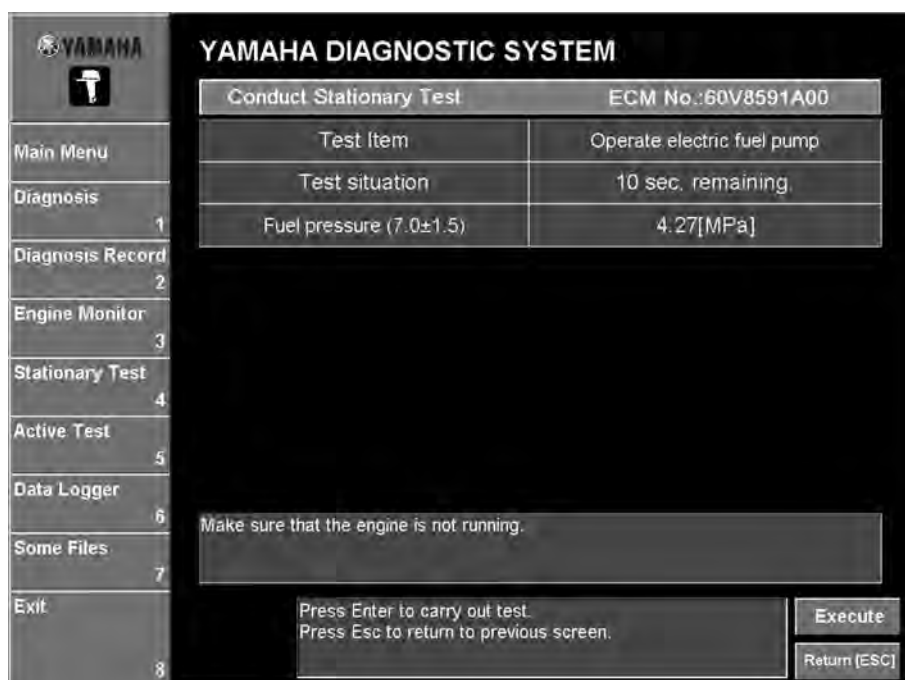

Fig. 77
2. Click the **Execute** button or press the Enter key on your keyboard. (Fig. 77)